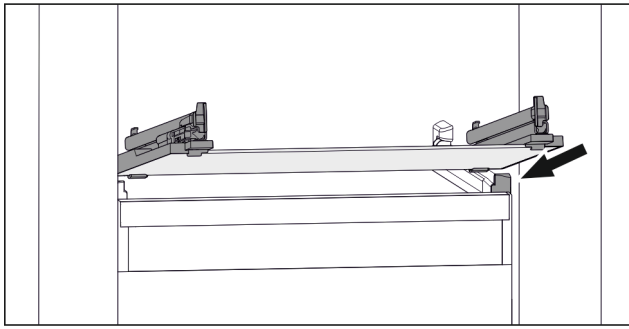

Fig. 108 Example illustration of glass shelf
- ▶ Position glass shelf at an angle behind the stoppers. (see Fig. 108)